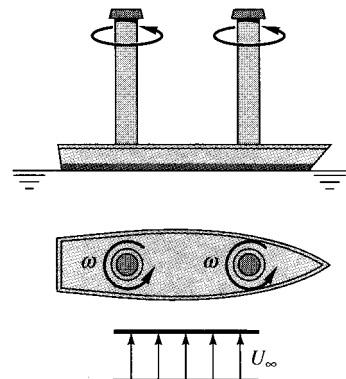

Fig. P8.54
**8.54** The original Flettner rotor ship was approximately 100 ft long, displaced 800 tons, and had a wetted area of 3500 ft2. As sketched in Fig. P8.54, it had two rotors 50 ft high and 9 ft in diameter rotating at 750 r/min, which is far outside the range of Fig. 8.11. The measured lift and drag coefficients for each rotor were about 10 and 4, respectively. If the ship is moored and subjected to a crosswind of 25 ft/s, as in Fig. P8.54, what will the wind force parallel and normal to the ship centerline be? Estimate the power required to drive the rotors.
**8.55** Assume that the Flettner rotor ship of Fig. P8.54 has a water-resistance coefficient of 0.005. How fast will the ship sail in seawater at 20°C in a 20 ft/s wind if the keel aligns itself with the resultant force on the rotors? [This problem involves relative velocities.]